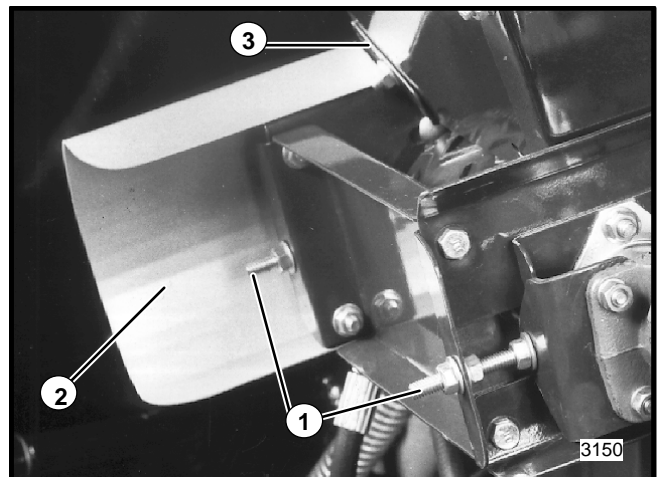

Figure 44
**NOTE:** Remove curved shield from front of conveyor. If shield is not installed as received, it must be installed after belt is adjusted (See Fig. 44).